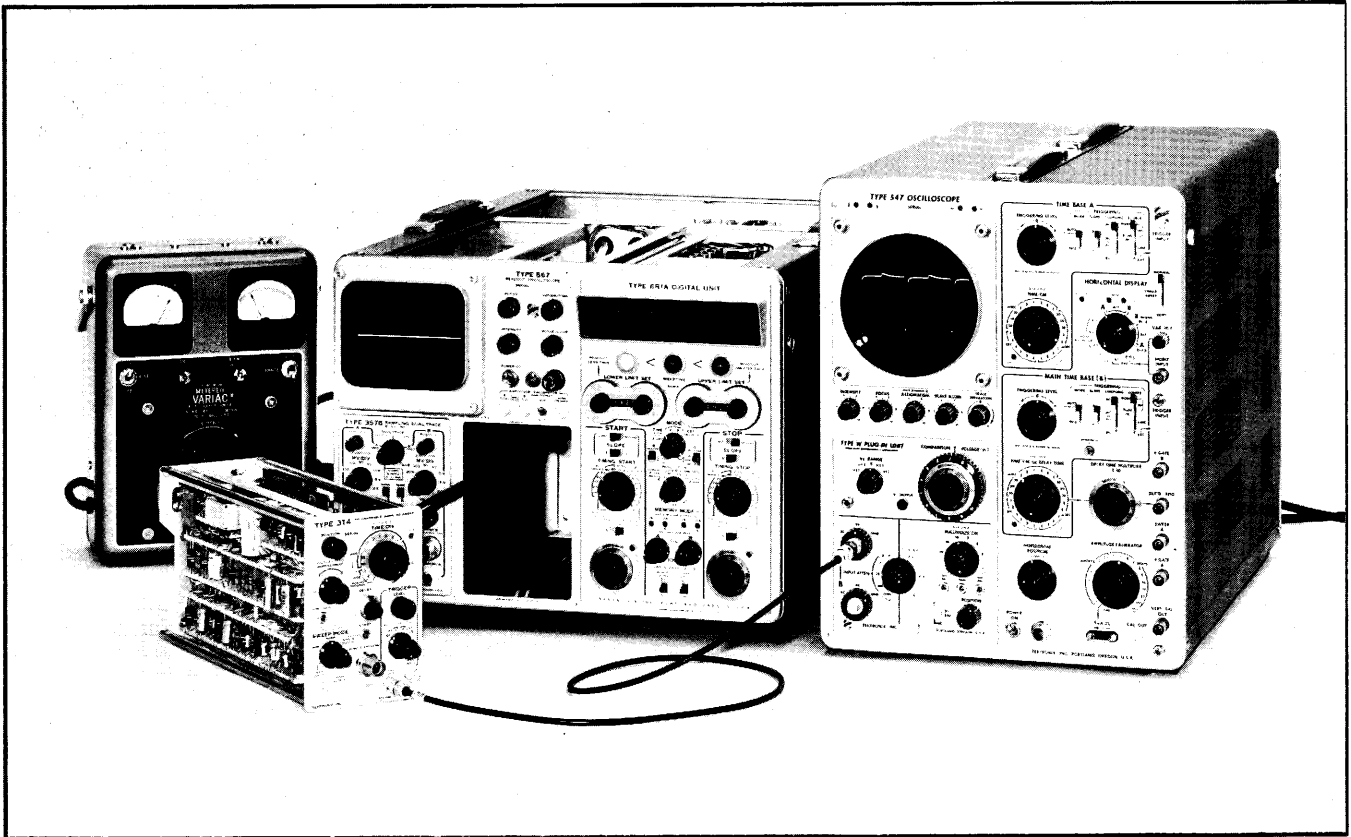
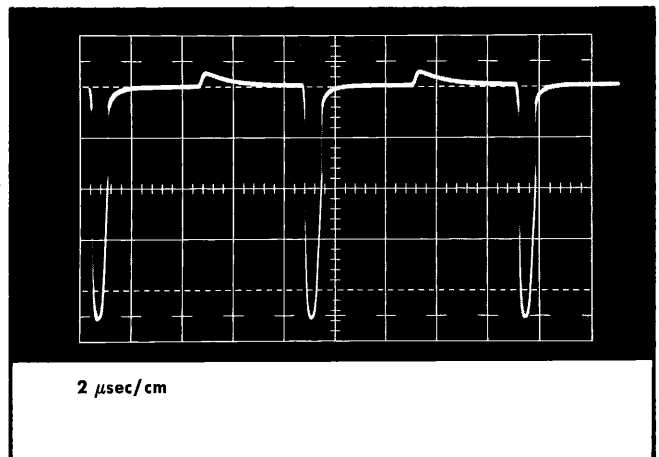

Fig. 5-8. Step 4 test setup to measure amplitude of signal at TRIG OUT connector.
Fig. 5-9. TRIG OUT connector waveform—Step 4 a.
a. Connect the setup shown in Fig. 5-8. The test oscilloscope display should be similar to Fig. 5-9, approximately 450 mv peak to peak, with a pulse period of between 8 and 10 μ sec.